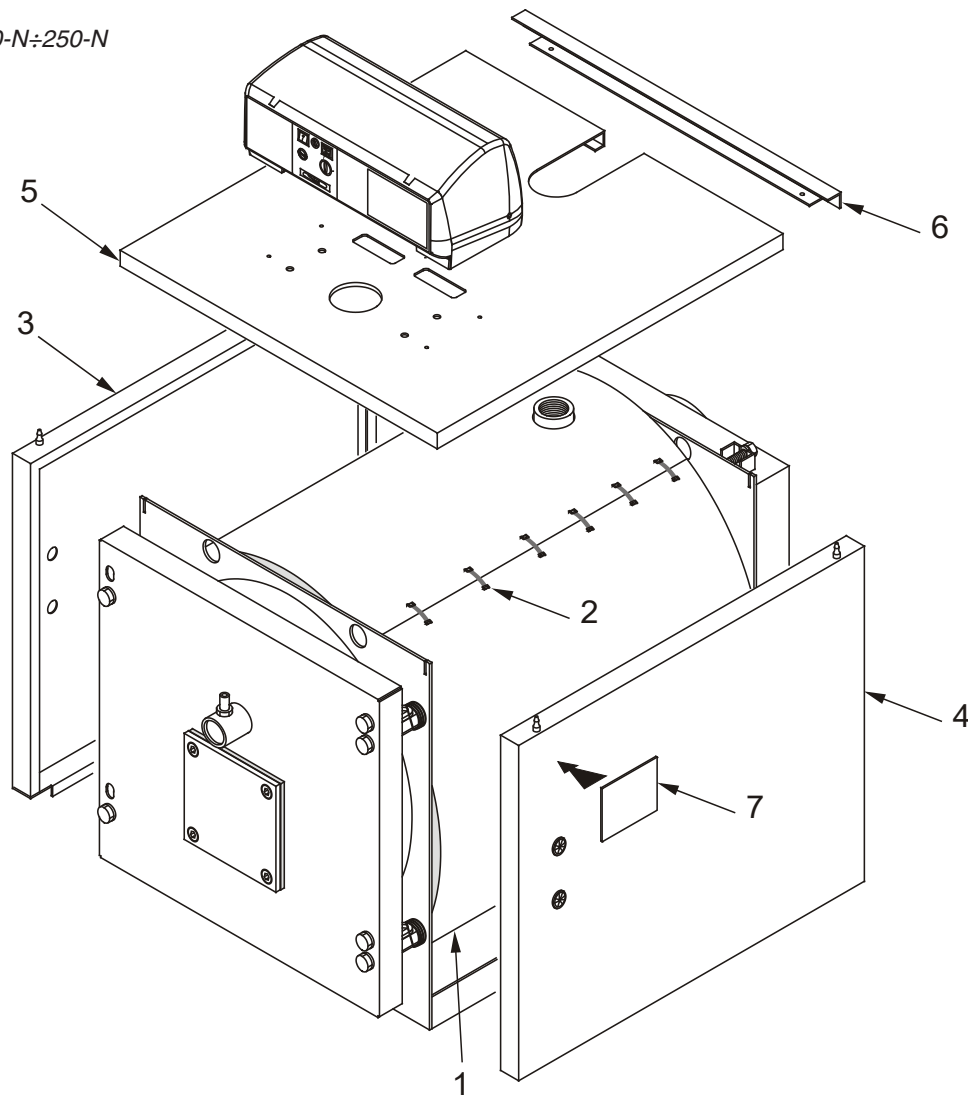
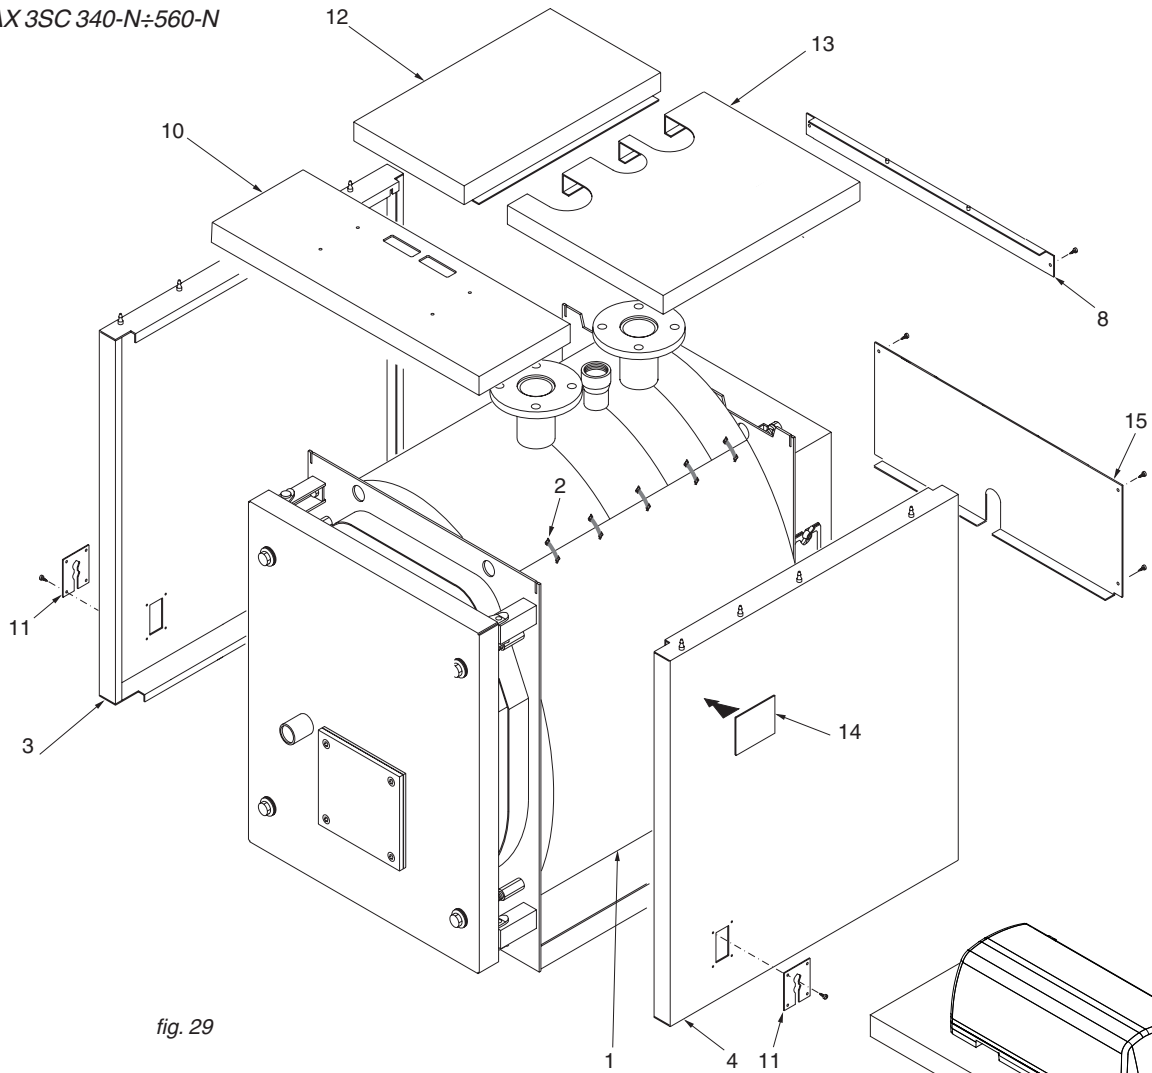

fig. 27
fig. 29
N.B.: For models from **80-N to 250-N** (ref. fig. 27 and 28) and from **300-N to 450-N** (ref. fig. 29 and 30), the casing and insulation are contained in 1 marked box:
N.B.: For the **560-N** model (ref. fig. 29 and 30) and for models from **680-N to 870-N** (ref. fig. 31 and 30), and from **1000-N to 2000-N** (ref. fig. 32 and 35), the casing and insulation are contained in 3 marked boxes:
Assembly sequence (Ref. fig. 27 and 28)
Assembly sequence (Ref. fig. 29)